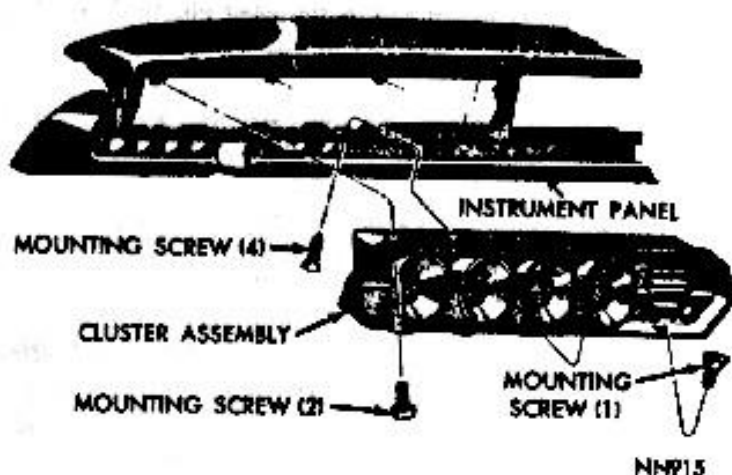

Fig. 3—Instrument Cluster Removal
- (1) Disconnect battery ground cable.
- (2) Tape steering column to keep from damaging finish when removing instrument cluster.
- (3) Loosen set screws in undersides of heater control knobs and remove knobs.
- (4) Remove radio control knobs and two mounting nuts, if so equipped.
- (5) Open glove box door and leave in open position.
- (6) From under instrument panel, disconnect speedometer cable. Remove wire harness from two retainer clips at steering column bracket.
- (7) Remove four screws in underside of upper cluster bezel lip. From under cluster, remove the far left and center screws and the single screw in right side of upper face in lower cluster bezel lip, (Fig. 3).
- (8) Carefully pull cluster out and to the right, far enough to reach around behind the cluster and disconnect wires on gauges and panel lighting wire connector. Remove directional, high beam and rotating headlight indicator bulb sockets.
(9) Roll top of the cluster down while working it to the right over open glove box door. Remove cluster to work bench for servicing.